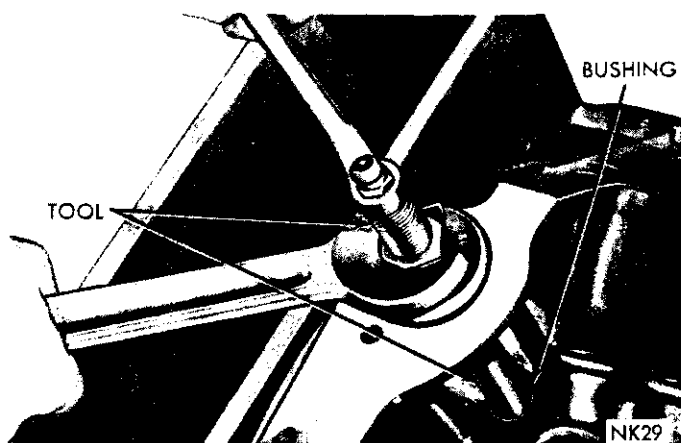

Fig. 36—Burnishing Distributor Drive Shaft Bushing
(3) As the burnisher is pulled through the bushing by tightening the puller nut, the bushing is expanded tight in block and burnished to correct size, (Fig. 36).